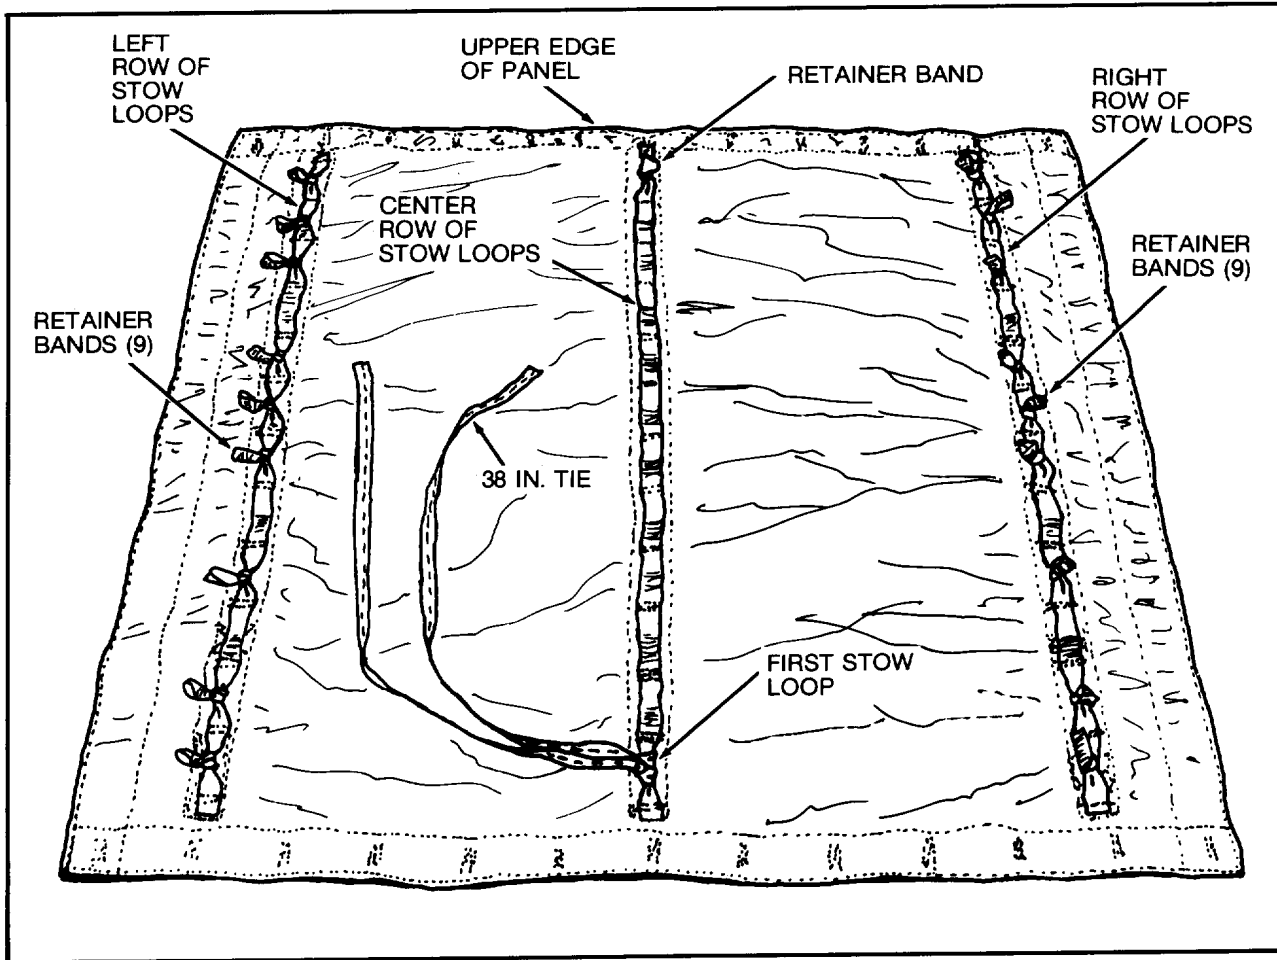

Figure 1. Bottom Panel Layout for Stowing 60-FT. Three Loop Extraction Line.
- b. Install nine retainer bands at even spacing to left row of stow loops, nine to right row of stow loops and one to center row at upper edge of panel (figure 1).